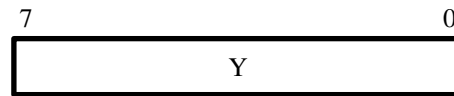

Figure 20. YCrCb 4:0:0 Color Space.
- YCrCb 4:0:0 — This format only as the Y component as shown in Figure 20. This format is equivalent to 8-Bit Grayscale RGB color space. This mode is defined as 8 bits per color and one color plane.